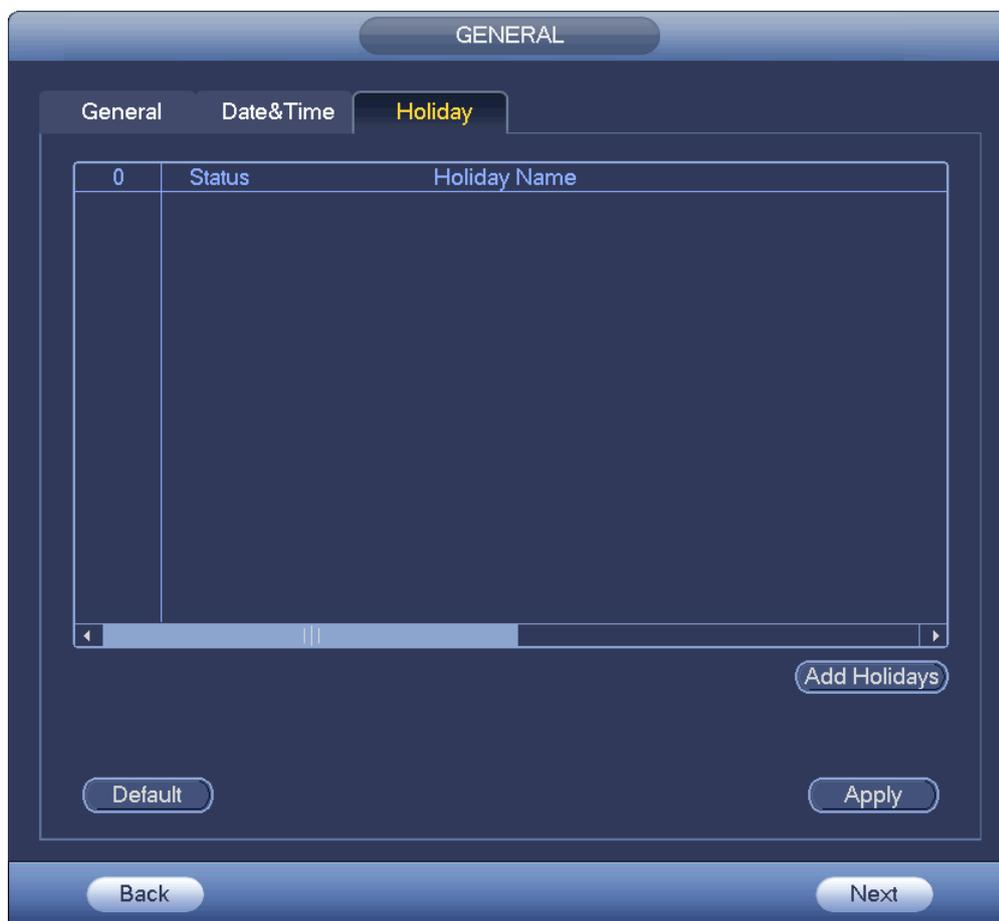

Figure 2-13
Step 1 Click Holiday button. See Figure 2-13.